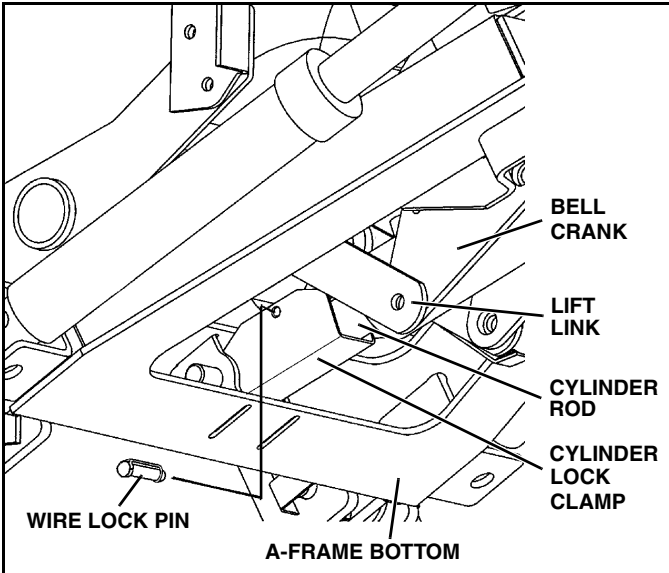

Figure 1-14
5. Position the cylinder lock clamp around the exposed (chrome) portion of the lift cylinder with the open side of the cylinder lock up. Install the pin. (See Figure 1-14).